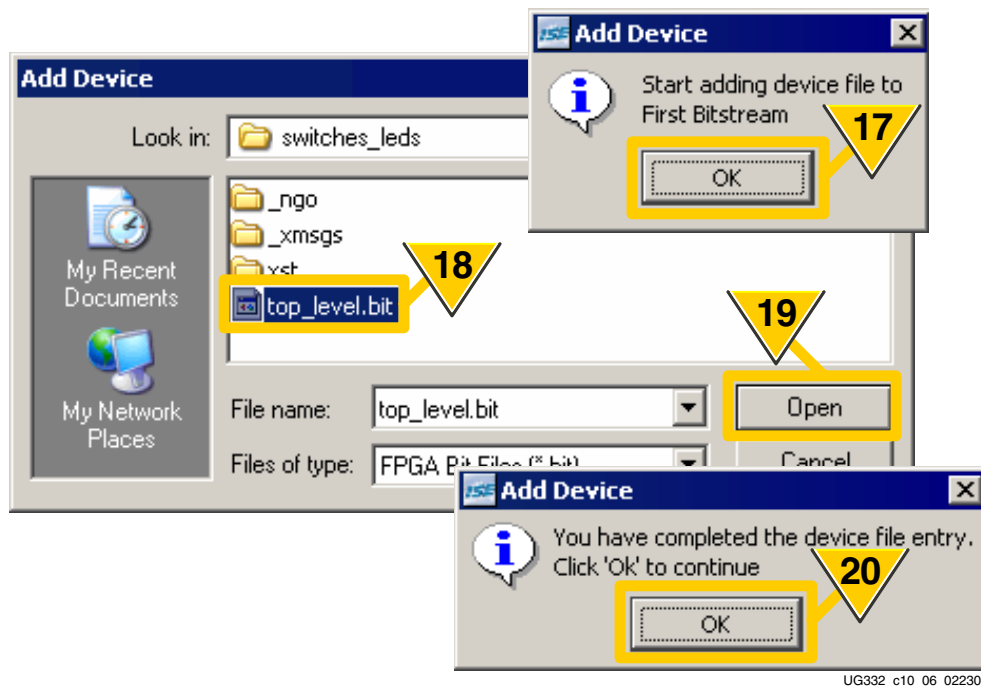

Figure 10-9: Add FPGA Configuration Bitstream File(s)
17. As shown in Figure 10-9, click OK to start adding FPGA configuration bitstreams to the In-System Flash image.